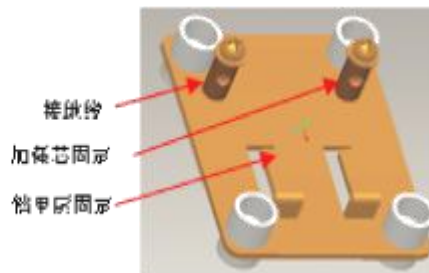

Figure 4
- The fiber cable is fixed on the fixed and grounding device of the cable, and the reinforcing core is fixed on the fixed position in the fixed seat, figure 4.